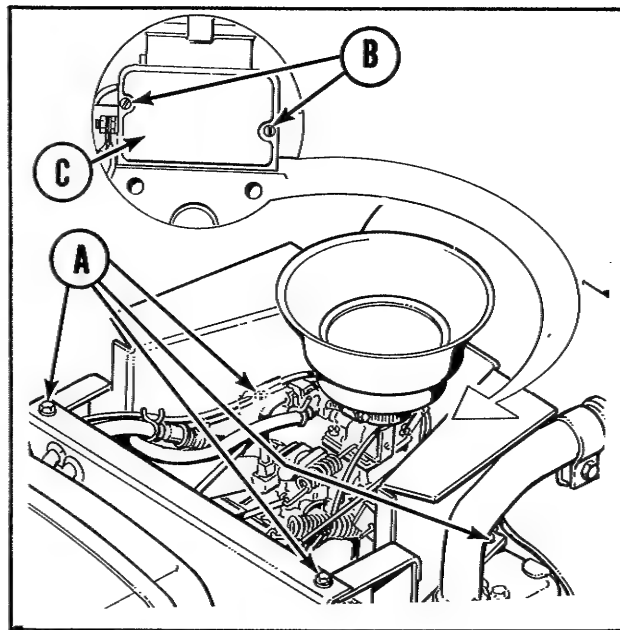

Figure 31. Engine heat shield.
2. See figure 31. Remove the 4 screws (A) and lift the heat shield off the engine.
3. Remove the two screws (B) and remove the cover (C) from the breaker point box.
5. See figure 31. If adjustment is required, remove the heat shield and breaker box cover as described in steps 2 and 3 of the preceding section on Changing the Breaker Points.